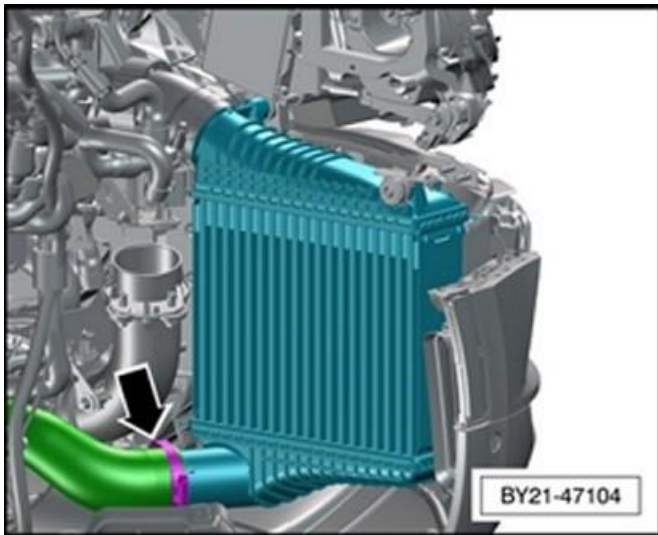

Figure 1
- Referring to Figure 1 - Remove the right and left hand lower charge air cooler pipes, any oil found in the charge cooler/pipes should be drained off, any remaining oil residue should be cleaned from the charge coolers and pipes